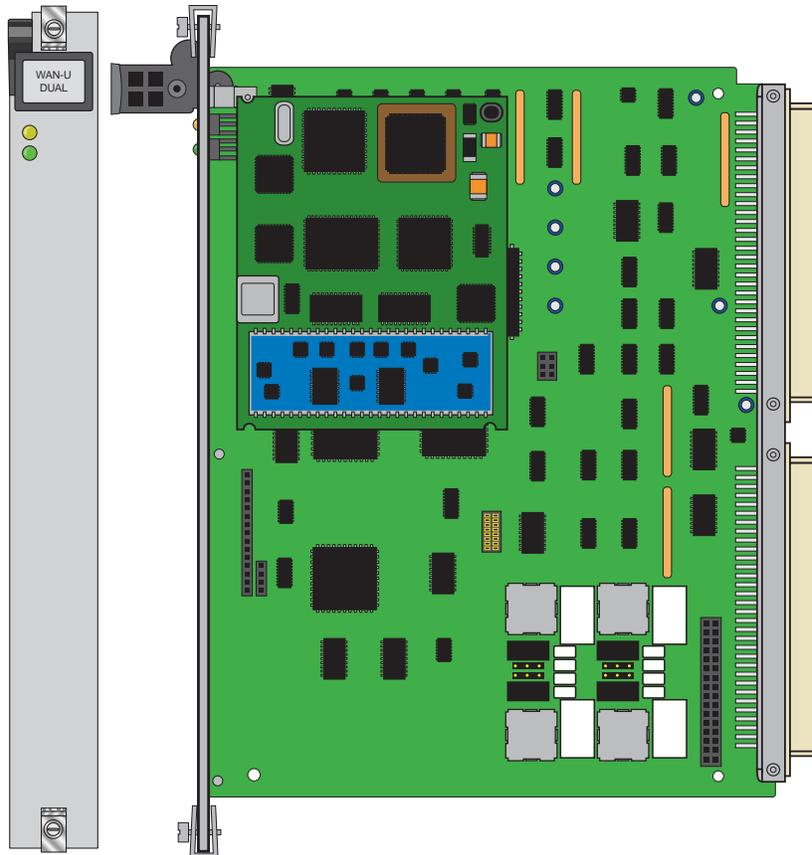

Figure 7-2. WAN-U DUAL Card
The WAN-U card is a dual-port card that provides HDSL 2.048 Mbps (E1) service when used with E1/HDSL plug-in modules (see Figure 7-2). Refer to section 7.3.3 on page 7-15 for more information. **The Adtran E1/HDSL module (820) works only on this WAN card, and the DSX/CEPT and CSU modules do not work on this card.**